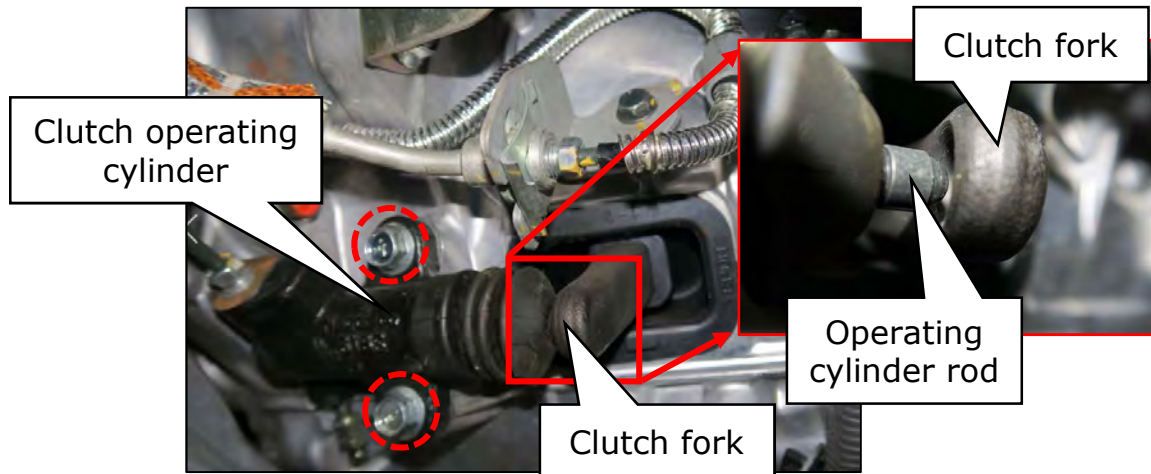

Figure 96
95. Install the clutch release cylinder. (Figure 96)